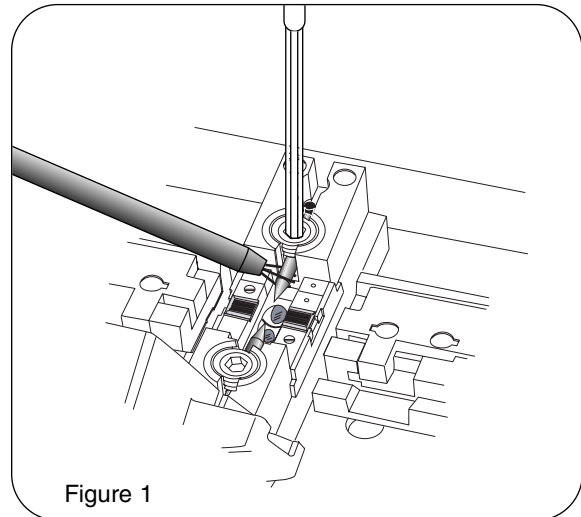

Figure 1
3. Using the electrode wrench, loosen the set screws that secure the electrodes by about two turns. Remove the electrodes using tricep tool (Figure 1).